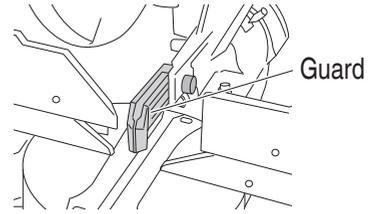

Fig. 30
- (1) Turn the stopper holder on the direction shown in Fig. 30. Lower the motor head, and turn the 6 mm depth adjustment bolt by hand. (Where the head of the 6 mm depth adjustment bolt contacts the hinge.)